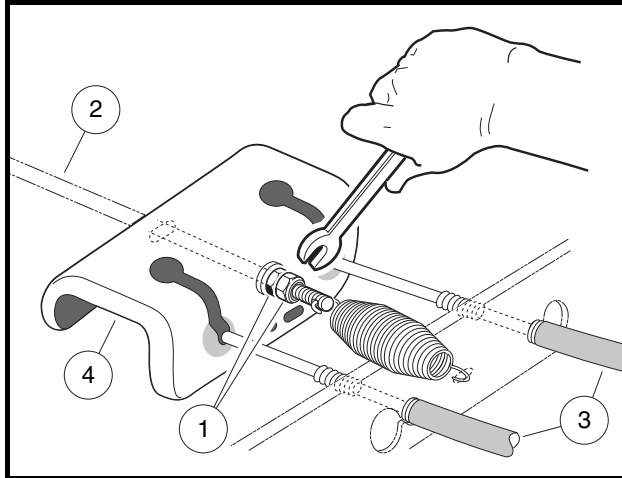

Figure 6-38 Loosen Equalizer Nut
2. Release park brake if latched and loosen equalizer retaining nuts (1) on equalizer rod (2) to slightly loosen brake cables (3) **(Figure 6-38, Page 6-23)**.
1. Place the cable ends in the equalizer (4) (**Figure 6-38, Page 6-23**). Route cables through hangers in the same manner as the ones removed.